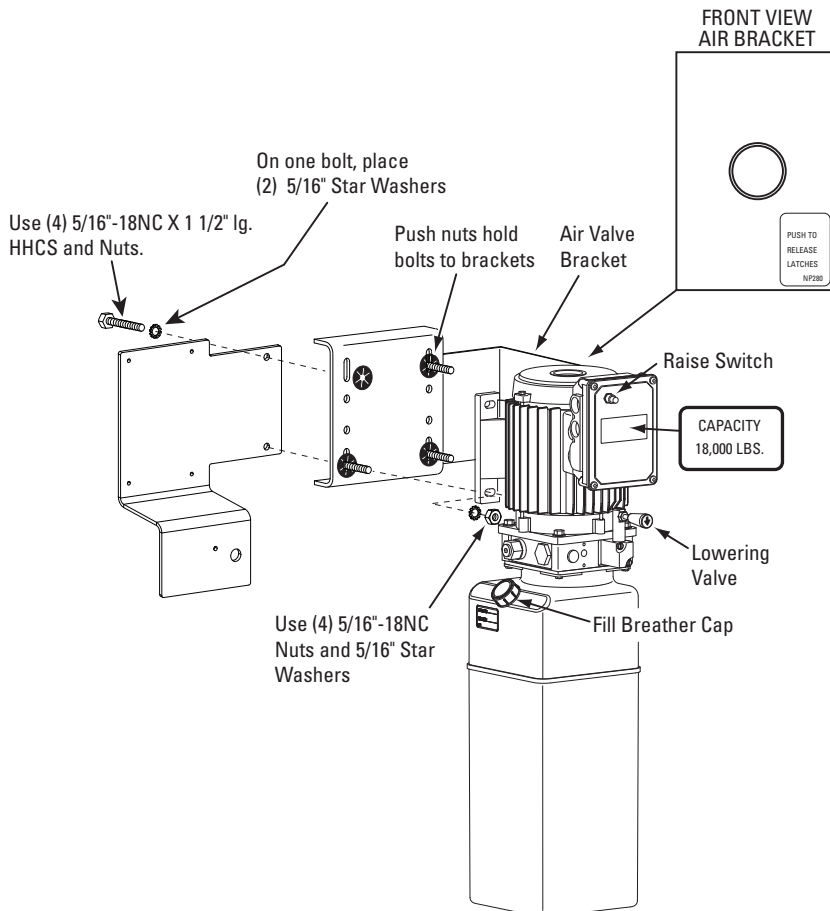
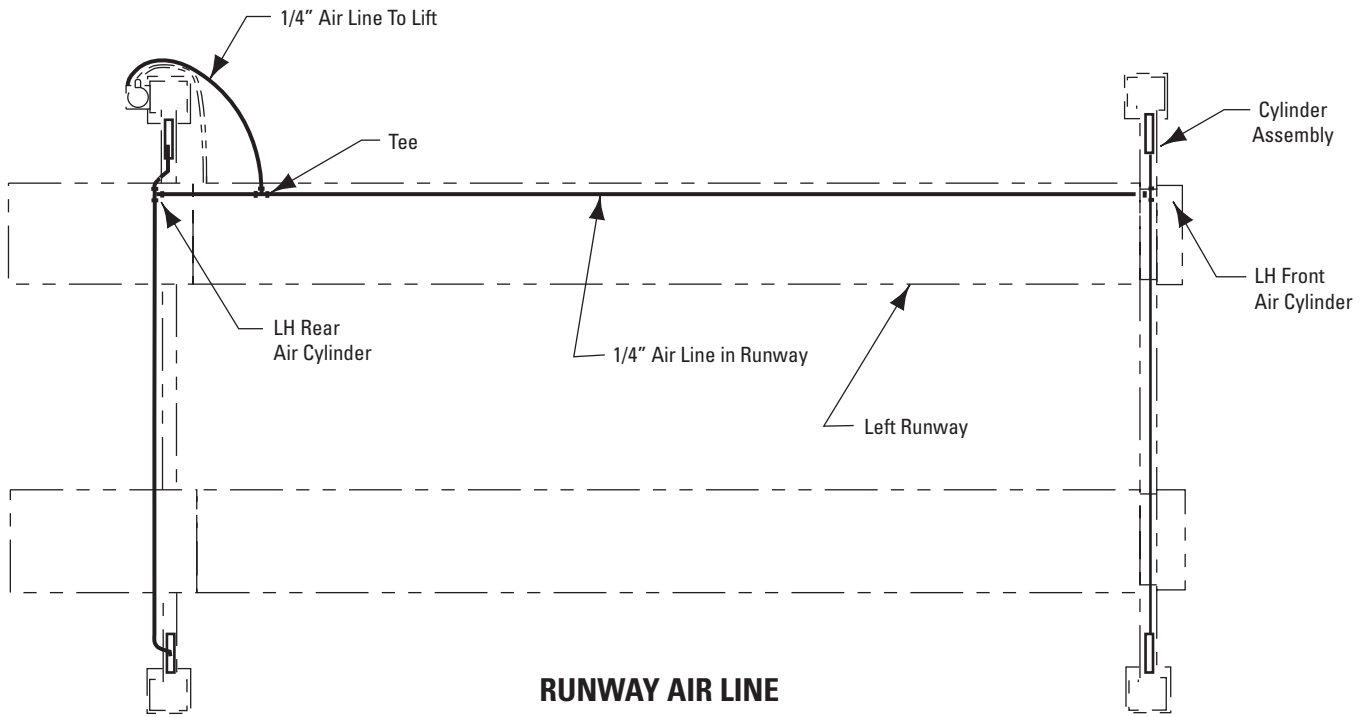

Fig. 17
Fig. 25
A. Align Latch Release Air Valve Bracket with holes in right side of Column Bracket. Put four 5/16" x 1 1/2" hex bolts through holes in Air Valve Bracket and Column Bracket, using push nuts to hold in place, Fig. 17. When using 3Ø Control Box with push button, position mounting bracket to the rear of the power unit bracket and attach using two (2) of the 5/16"-18NC x 1 1/2" HHCS, Fig. 17.
D. Attach enclosed NP280 decal (ACTUATE TO RELEASE LATCHES) below button on air valve bracket, Fig. 17. Run 1/4" air line from air valve to the slot in the fixed runway. Cut airline and attach a Tee, Fig. 25.
E. Run 1/4" air line from the Tee of the runway grommet through the guide tubes on the inside wall of the runway to the open air line coupling from the front yoke, Fig. 25.